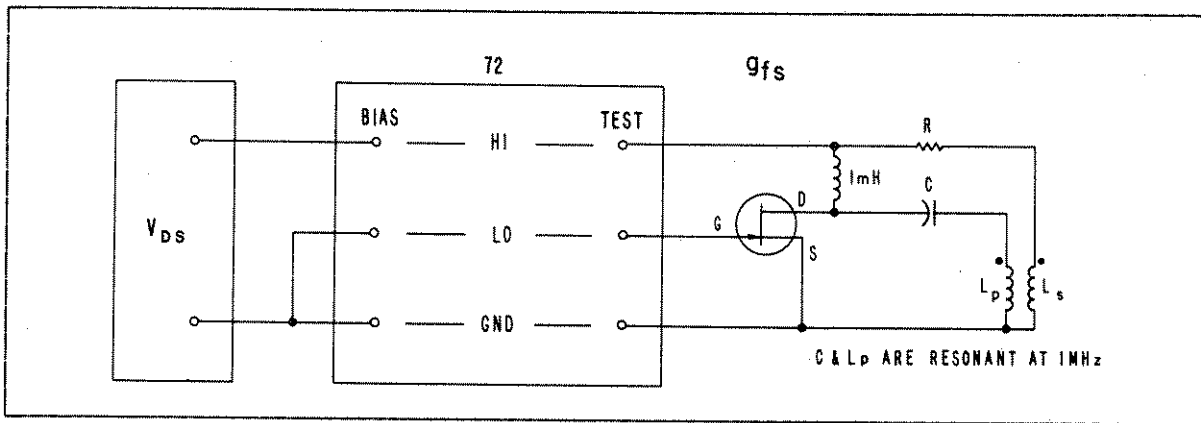

Figure 2-7. Transistor Transconductance Measurement
D. Forward Transconductance ( $g_{fs}$ ). See Figure 2-7. The 72B is calibrated for an input current of  $+je_g\omega C$ , where C is the full-scale value of capacitance for any given range. Connecting the gate of a unipolar transistor to the LO TEST terminal will, by definition, generate a drain current of  $eg_{fs}$ , provided that the external drain-circuit impedance